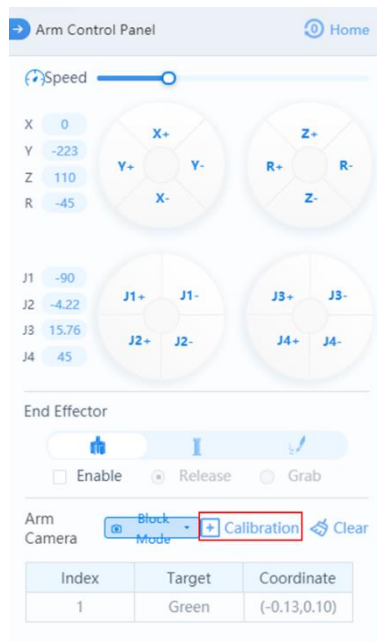
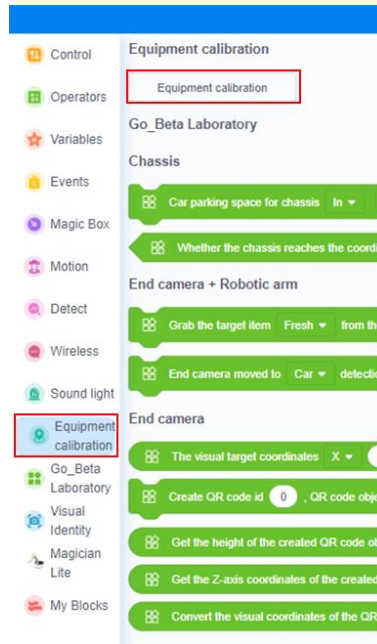

Figure 4.30 Click Calibration
Figure 4.31 Equipment calibration block
Step 2 Click **Calibration** on the arm control panel of Python Lab, as shown in Figure 4.30. Or click **Calibration** in the Calibration block of DobotBlock Lab, as shown in Figure 4.31.